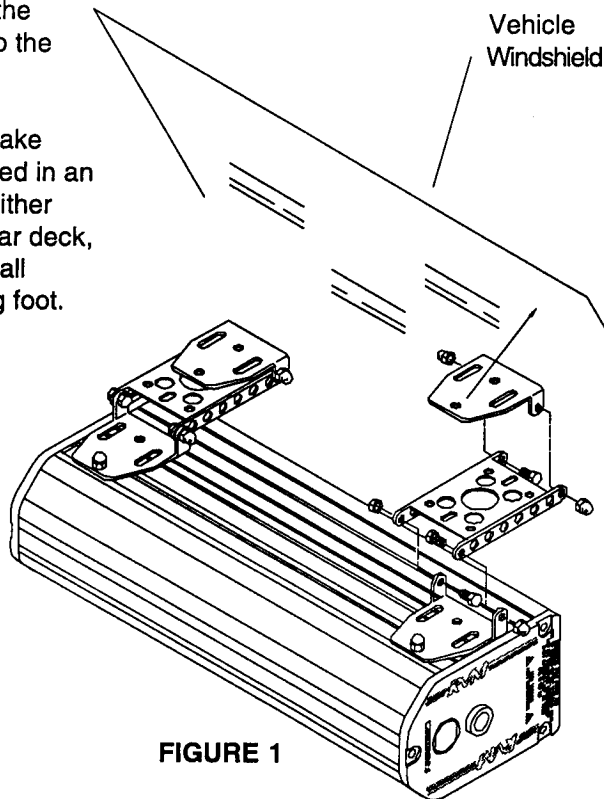

FIGURE 1
1. Attach the mounting hardware to the unit as shown in Figure 1. (For Ford Crown Victoria models, the center portion of the mounting bracket may not be necessary for mounting to the headliner.)